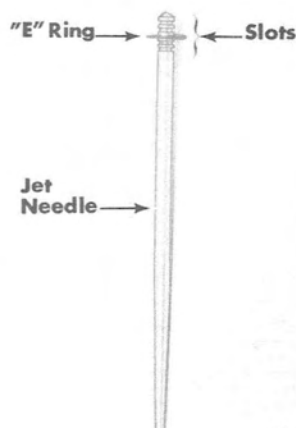

Figure 3.
- d. Refer to "Mid-Range (Jet Needle) Adjustment", preceding, and check location of "E" ring in jet needle slots. (Figure 3)
Positioning of jet needle "E" ring in jet needle slots (Figure 3) determines fuel mixture ratio during mid-range throttle settings. Lean the fuel mixture at this setting by placing "E" ring in a higher slot on jet needle. Enrich the fuel mixture by placing "E" ring in a lower slot on jet needle. Jet needle "E" rings were positioned in the following slots when snowmobiles were shipped from the factory: